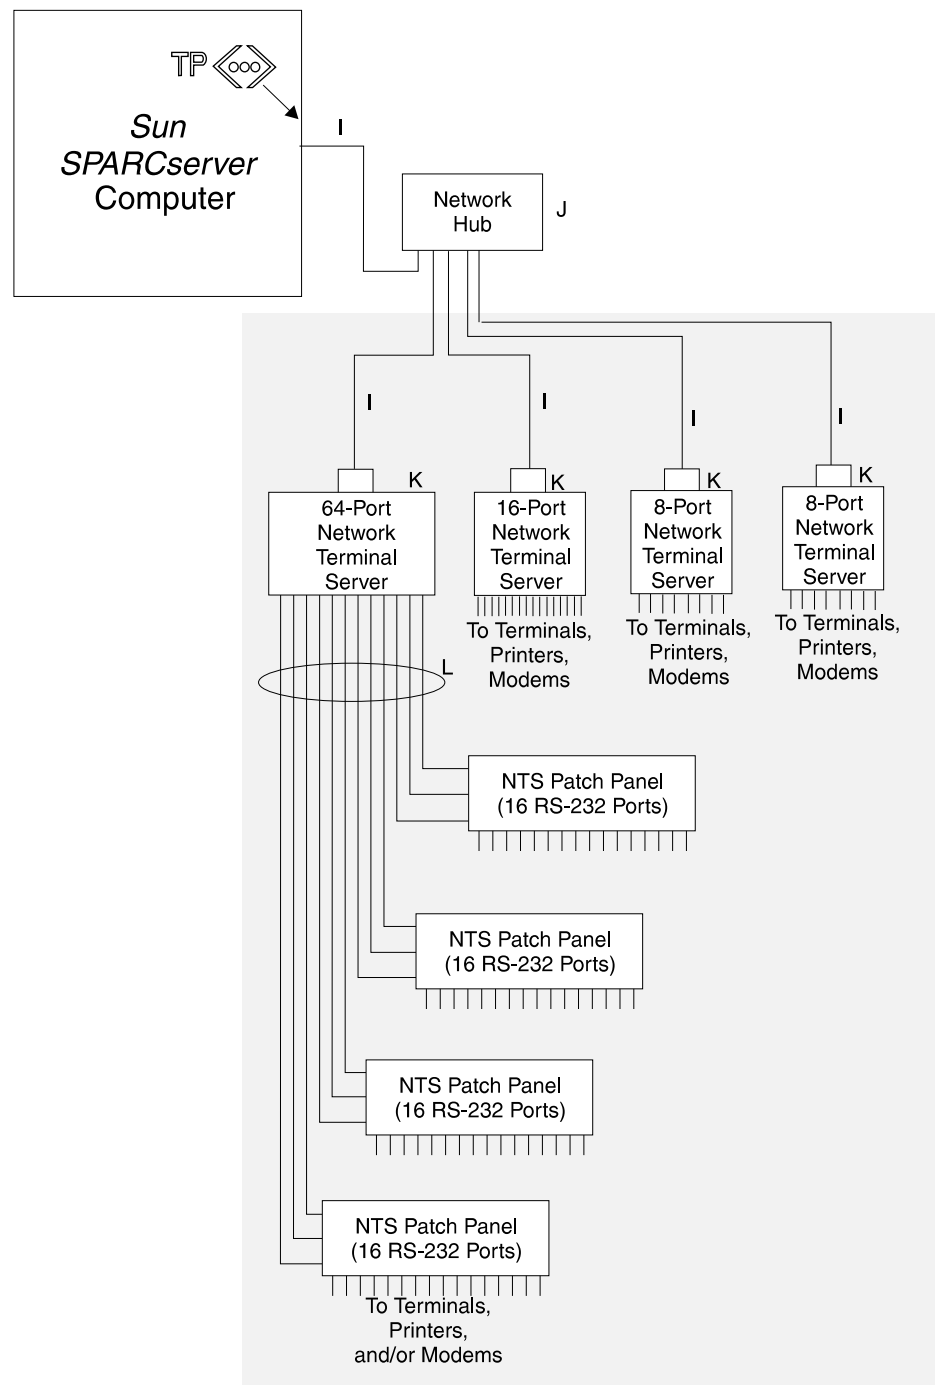

Figure D-55: Network Terminal Server Connectivity
7. Replace the back panel of the 64-port NTS (to its original position) by sliding it toward the front of the NTS. See Figure D-55 for a graphical view of the network terminal server connectivity.